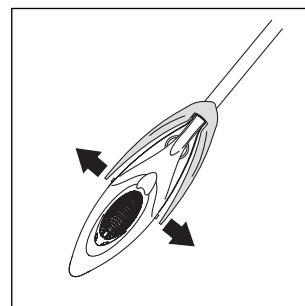

Fig. 10
- release the two fixing points (fig. 10).